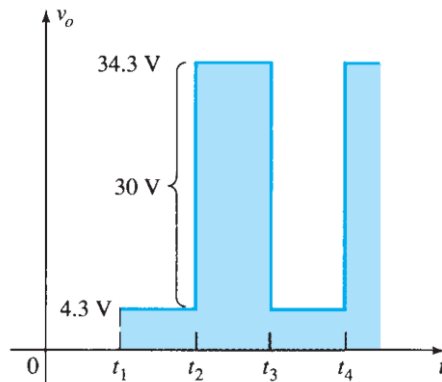

Figure 6
Step 5: redraw the output assume t_0 to t_1 is the charging period of the capacitor. The output signal is redrawn in Figure 6.